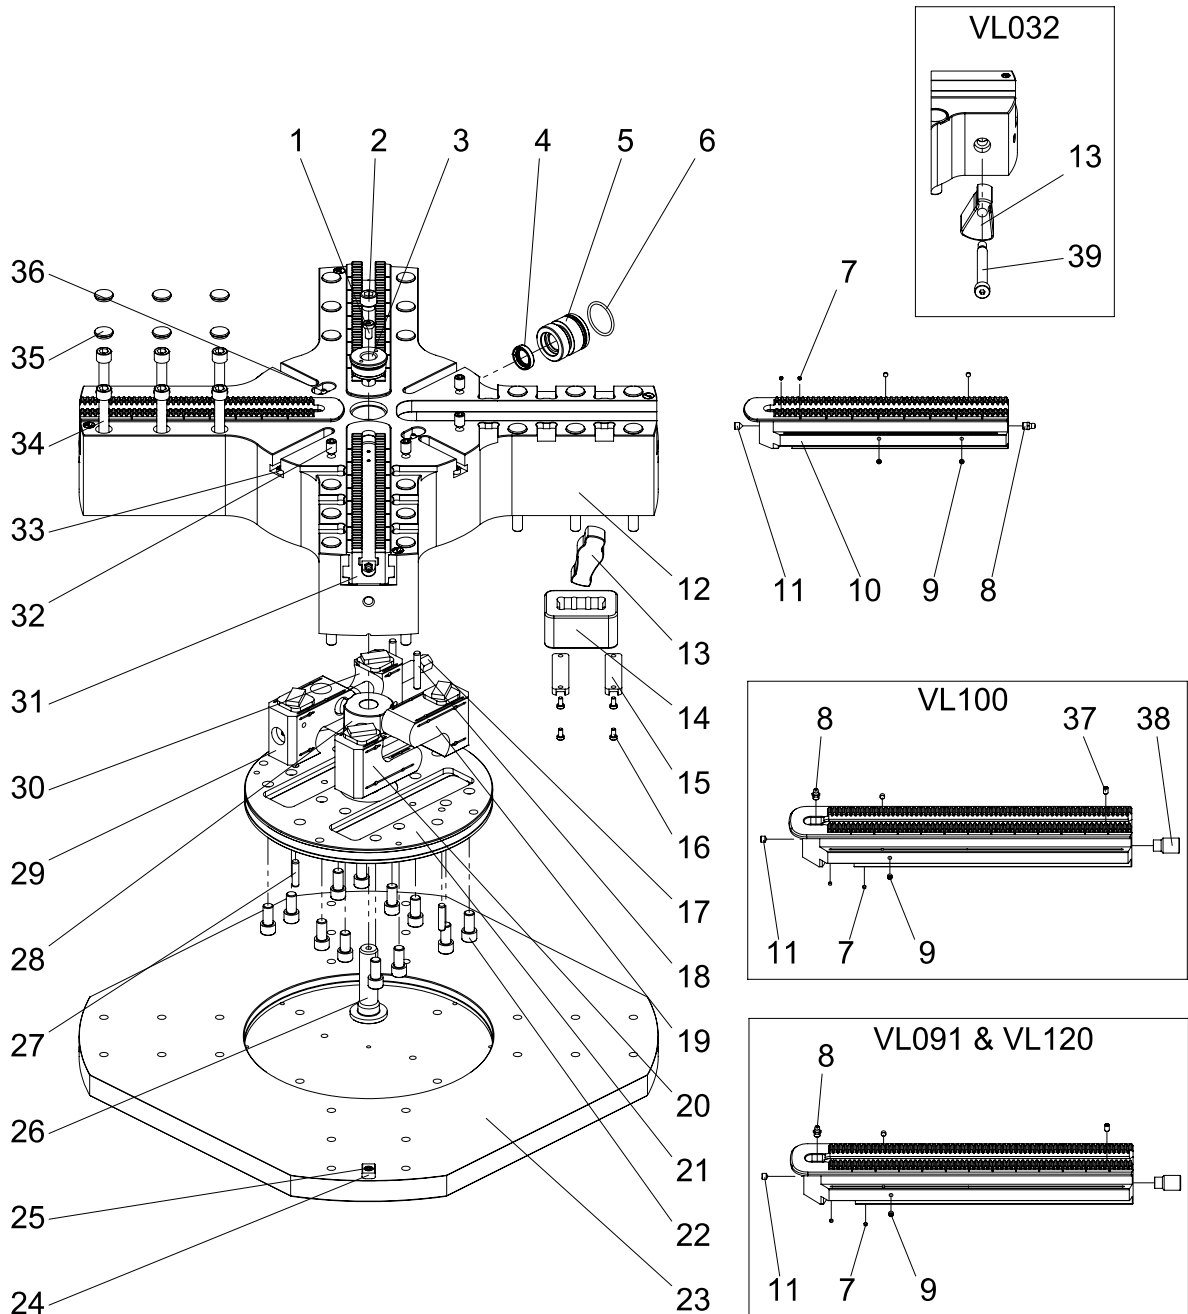

Fig. 8-1: Spare parts INOFlex® VL032 – VL120
- Step 1** Look for the desired part in figure 8-1 or 8-2.